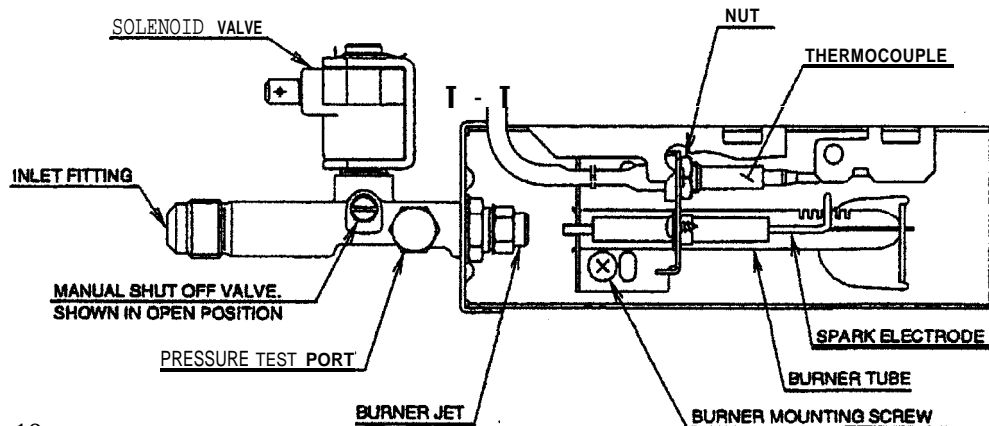

FIG. 12
- D. The LP gas pressure should be checked and the main regulator m-adjusted if pressure is incorrect. The correct operating pressure is 11 inches of water column. The correct place to take the LP gas pressure is at the test port just ahead of the burner jet. (See FIG. 12).
6. Remove the burner mounting screw and remove the burner assembly. (See FIG. 12).